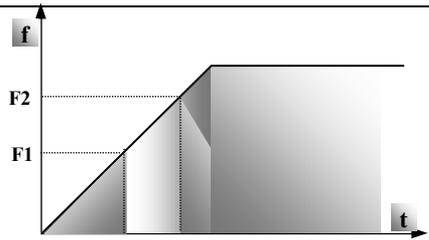

Fig 5-2 Skip Frequency
- “Skip Area” refers to the difference value between upper and lower frequencies of the skip frequency, e.g., with skip frequency of 20Hz, and skip area of $\pm 0.5\text{Hz}$, automatic tripping off will happen when inverter has its output within 19.5 ~ 20.5Hz (as F1 ~ F2 in Fig 5-2).